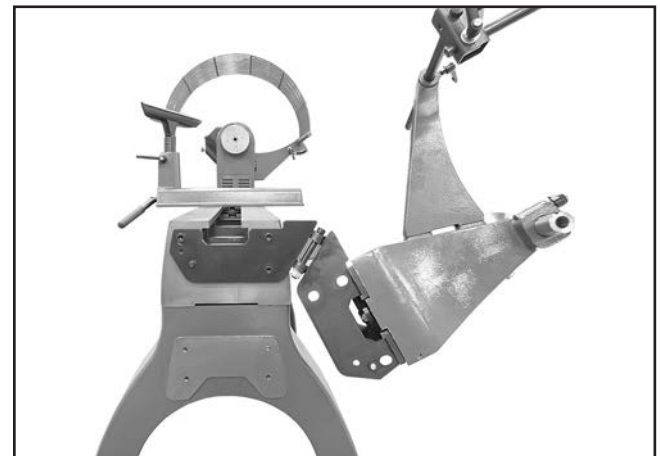

Figure 50. Swing-away bed released.
2. With one hand supporting tailstock, loosen swing-away bed wing knob to unlock and release swing-away bed (see **Figure 50**).